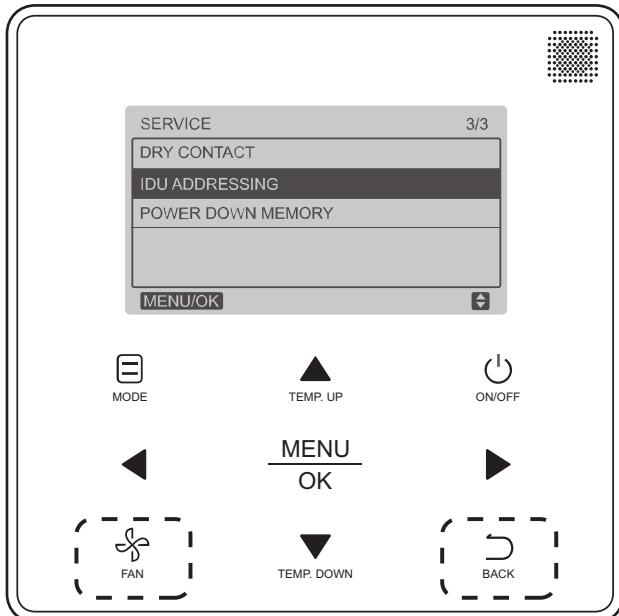

Fig. 38 — Programmable Controller IDU Addressing Menu
1. Press **FAN** and **BACK** simultaneously for five seconds to access parameter settings as shown in Fig. 38.